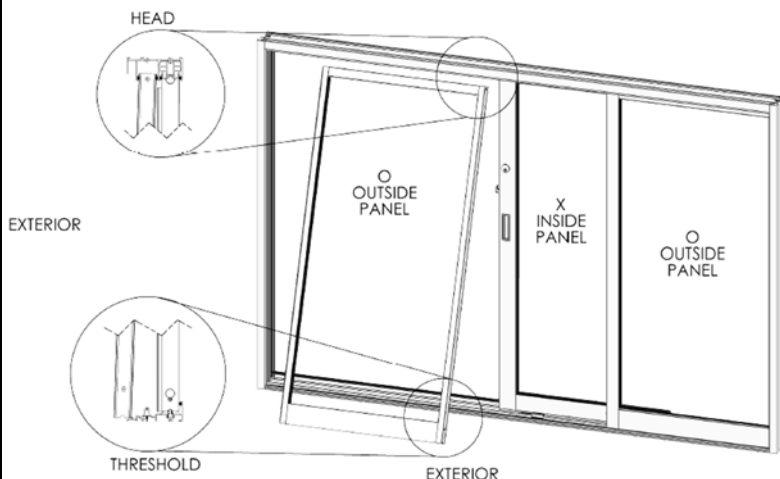

Figure 20:
1. Assemble and install the frame (Section IV). From outside, with the weather-strip facing outside, insert the "X" panel into the inside channel of the head, push up and swing the bottom of the panel in and down onto the sill. Insert the right side fixed panel and slide the "X" panel to the right side fixed jamb. Insert the left side fixed panel without interlocker (Figure 20). **Leave the head unanchored until the false jamb has been installed and set into position.**